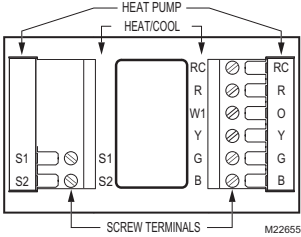

Fig. 3. Selecting terminal identifications for system type.
- 1. Select set of terminal identifications (Table 2) that corresponds with system type (conventional or heat pump) in Fig. 3.